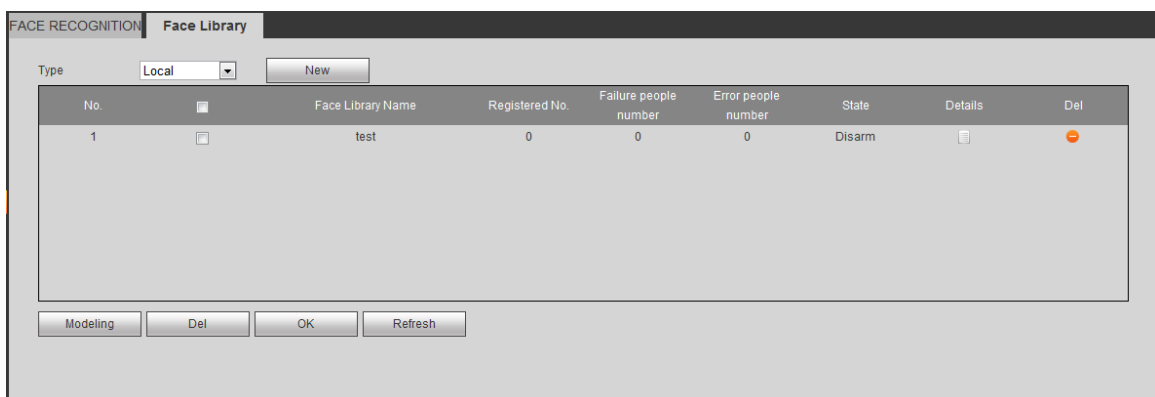

Figure 5-83
System saves the face library successfully. See Figure 5-83.
Step 1 In Figure 5-83, click  corresponding to the face library.